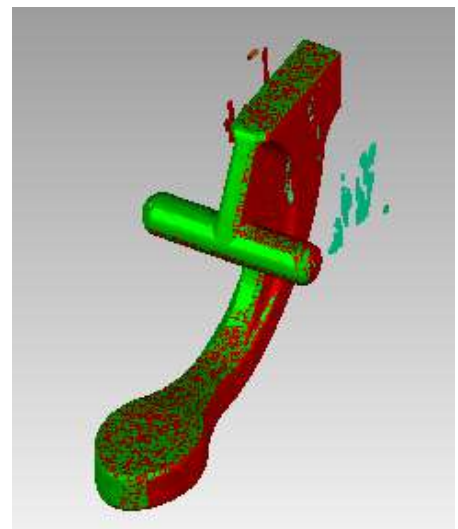

**Figure 34**
6. Pick a common point that is available in both the **Fixed** (red) and **Floating** (green) view ports, see **Figure 34**.